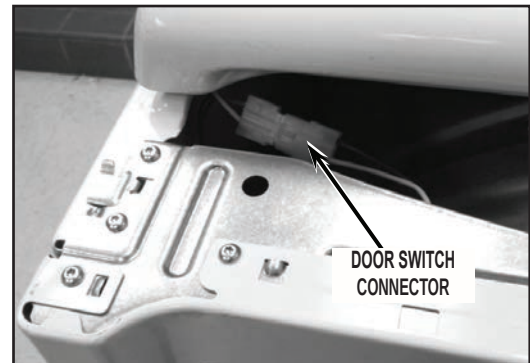

FIGURE 3
4. Disconnect the door switch connector located in the top left front corner of the dryer. See Figure 3.